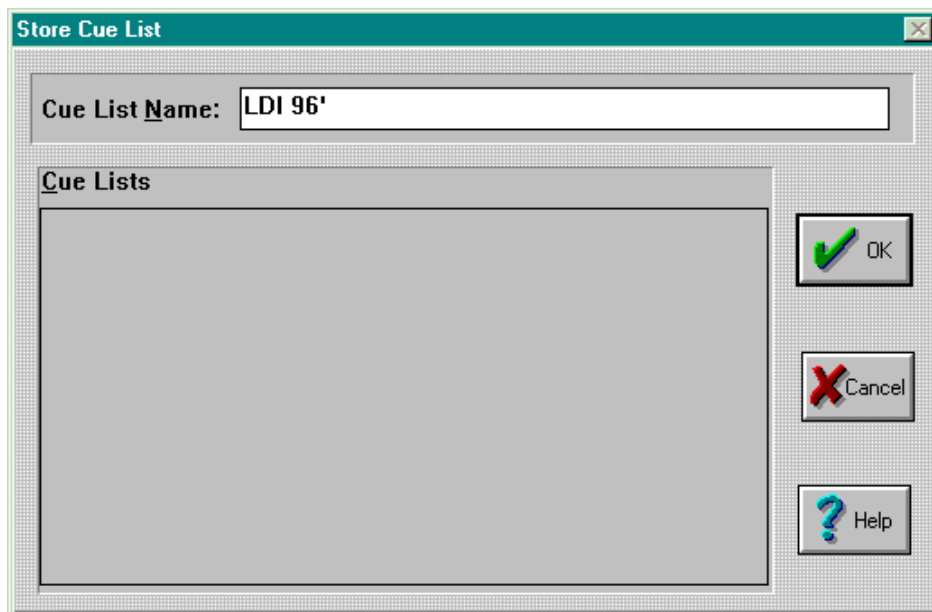

Figure 8.12. Store CueList Dialogue Box
2. Press the <STORE> key in the MEMORY group to bring up the **Store CueList** dialogue box. Refer to Figure 8.12. Alternately, select **Store** from the **Memory** drop-down menu.